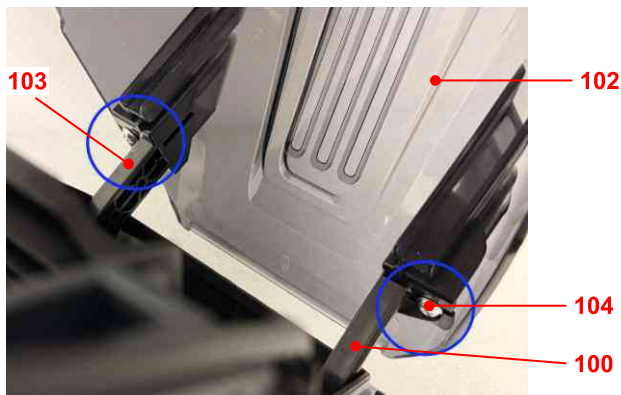

Fig. 11
5. If necessary, remove the self-tapping screws ST4.2*13-C (104) to disassemble the transparent cover (102) from the support lugs (100, 103) (Fig. 11). Replace the transparent cover with a new one of the same type.